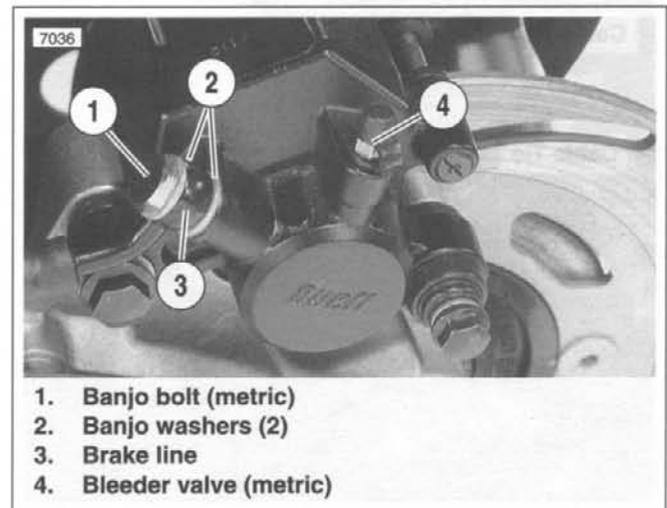

Figure 2-54. Rear Brake Caliper Banjo Bolt
10. See Figure 2-54. Remove rear brake caliper banjo bolt and two banjo washers. Discard banjo washers.